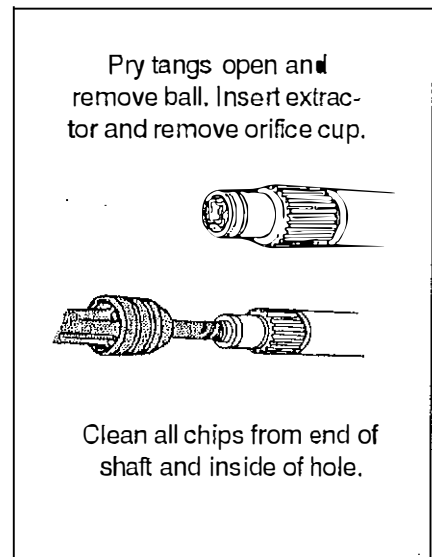

Figure 4
STEP 10. Remove ball and retainer cup from front end of input shaft as follows, see (Fig 4). Straighten four tangs on retainer and remove check ball. Remove retainer cup from shaft using the #4 Screw Extractor (Easyout) provided. This will allow the maximum flow of oil through converter. Remove O-ring from end of input shaft. Make sure no metallic debris remains in shaft pocket.